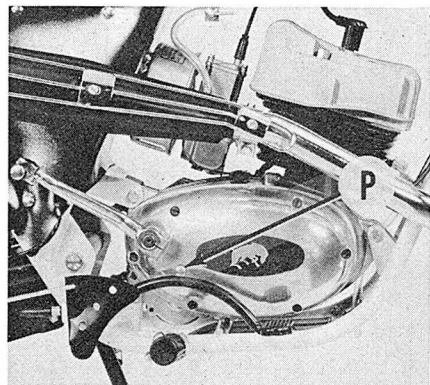

Fig. BR 3—Oil in transmission should be maintained at level of plug (P).
**LUBRICATION.** Transmission is lubricated by 24 oz. of SAE #30 motor oil. Oil should be maintained at level of plug (P—Fig. BR 3) and should be renewed every 1250 miles.